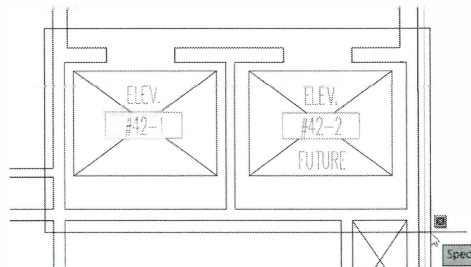

Figure 8–18
12. Use **Zoom** and **Pan** to display the two elevators in your drawing window. Select two corner points of a window to define the view, as shown in Figure 8–18, and press <Enter> to return to the dialog box.